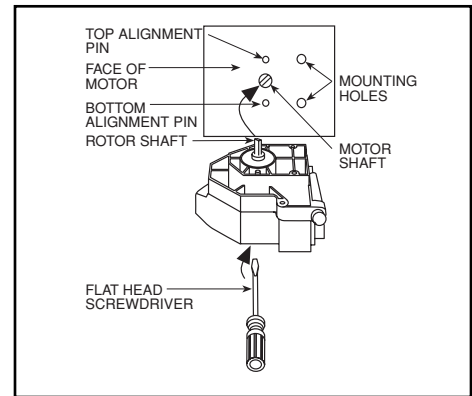

Figure 3-2. Aligning the Rotor Shaft
3. Refer to Figure 3-2. Place the blade of a flathead screwdriver in the groove of the Rotor Shaft. Rotate the Rotor Shaft until its back tab slips into the groove of the motor shaft. Do not try to force the pump onto the motor until you perform Step #4.